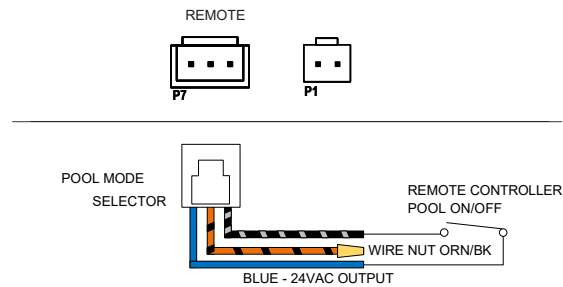

Figure 41. 2-Wire Remote Harness Installation
10. Attach wire nut on the ORANGE/BLACK wire of the 3-wire remote harness. See Figure 41.